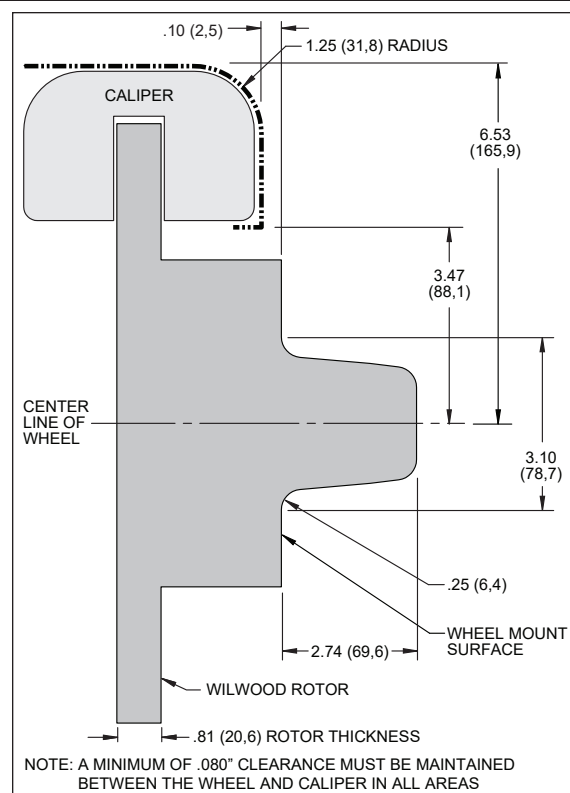

Figure 2. Wheel Clearance Diagram
- Review the Wheel Clearance Diagram (Figure 2, page 3) to verify that there is adequate clearance with the wheels you will be using with the installation.
- Verify wheel clearance utilizing Figure 2.
- Verify the new hub stud pattern in this kit matches the lug pattern of the vehicles wheels. CDP hubs have a 5 x 4.50" and 5 x 4.00" pattern. The 5 x 4.00" pattern does not guarantee fitment with all 5 x 4.00" wheels, either OEM or aftermarket. It is important that the center hole clearance be 3.10" or larger to clear hub snout in the kit, Figure 2.
- WARNING:** The wheel contact surfaces must seat completely on the face of the hub. If any contact surfaces overhang the outside diameter of the hub face, a 6.60" diameter x .20" thick steel spacer (item 22, Wilwood P/N 300-11961) MUST be used between the wheel and the hub.